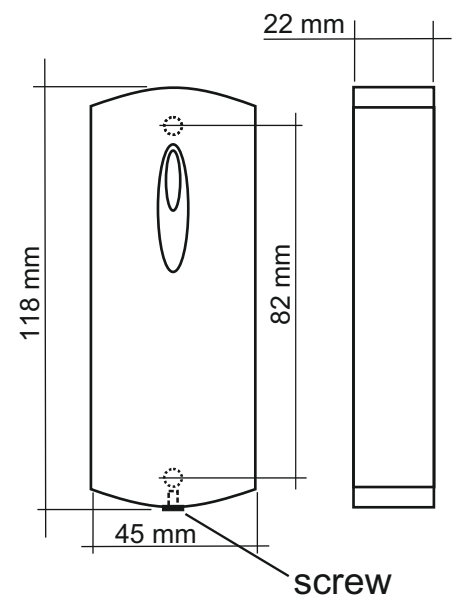

Fig. 2. Device Dimensions.
1. Mark and drill the mounting holes (Fig. 2)